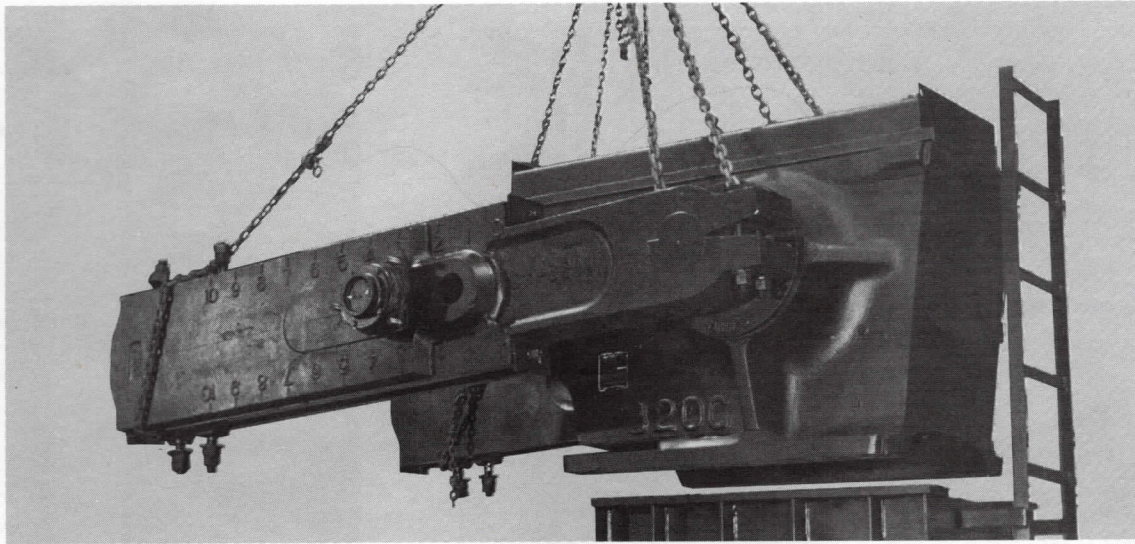

Fig. 3
4. Set reducer and crank assembly on reducer sub-base (320 or larger units) using factory set alignment stops, Fig. 3.